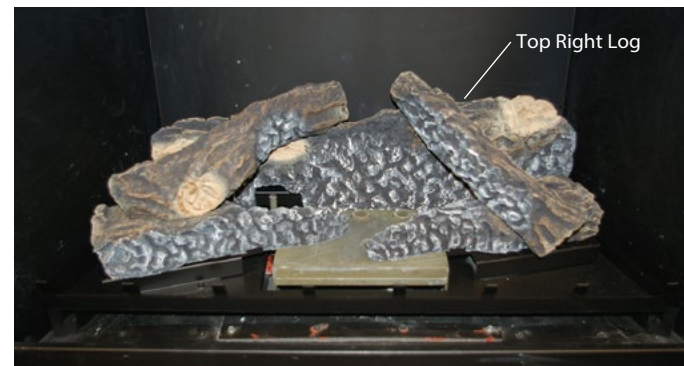

Figure 8e. Top right log placement.
Step 5. Place the top right log as shown in **figure 8e**. A notch is provided on the front right log, and an impression in the Rear bottom log.